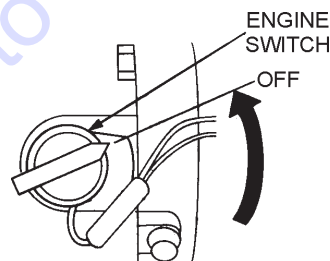

Figure 17. Engine ON/OFF Switch (OFF)
2. After the engine **cools**, turn the engine ON/OFF switch to the "OFF" position (Figure 17).